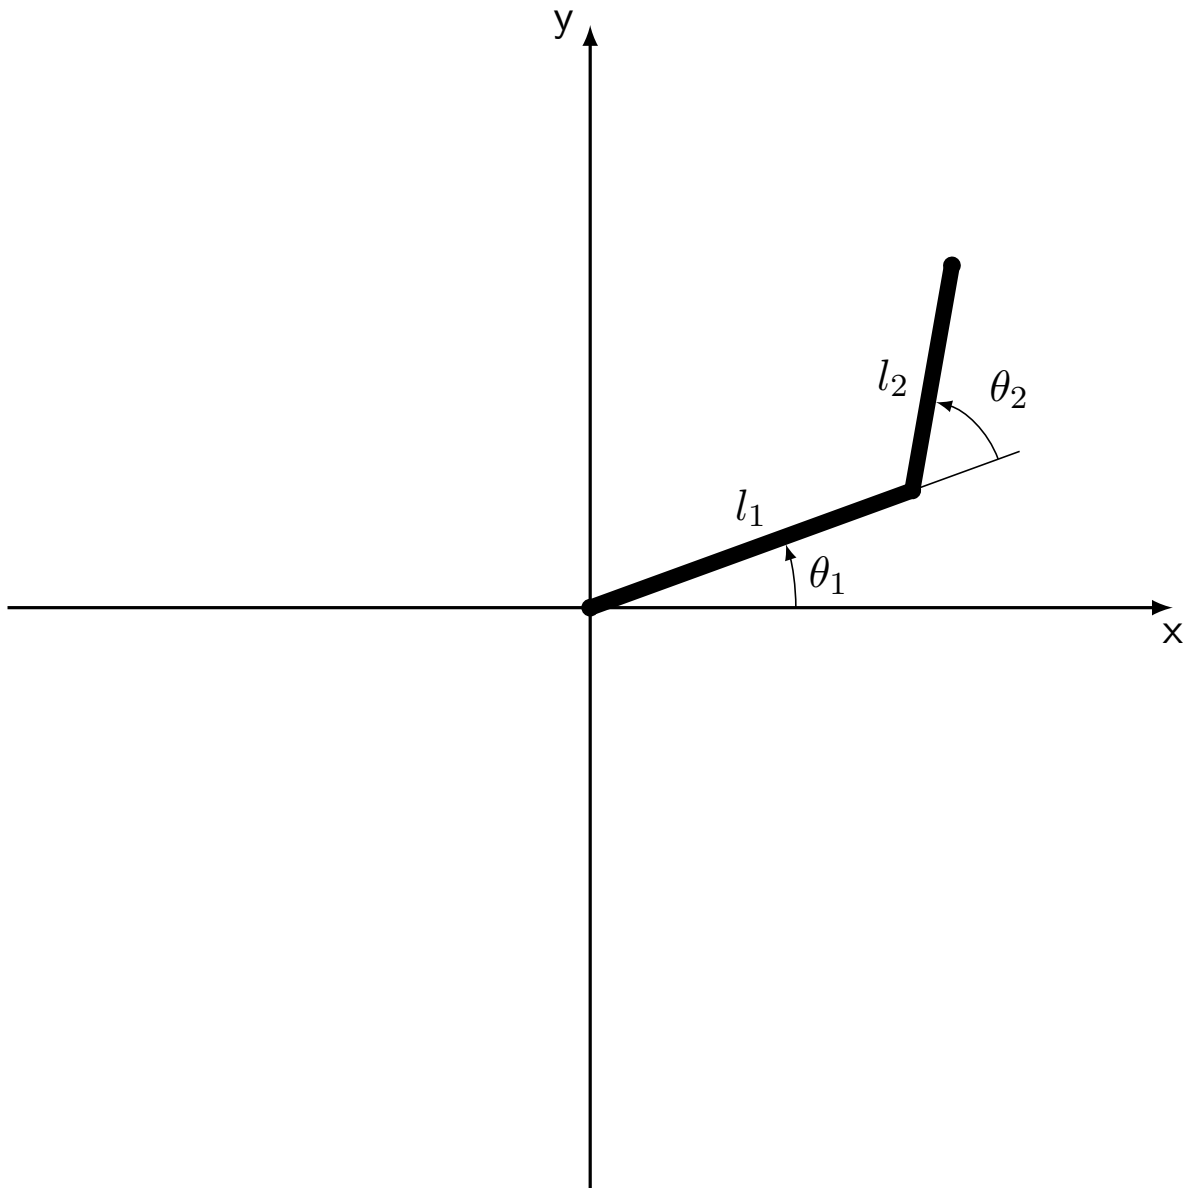

Figure 3: 2-joint planar manipulator.
**Task 3.5 (9 points) Jacobian and singularities:** Figure 3 shows a 2-joint planar manipulator with the following constraints:  $10^\circ \leq \theta_1 \leq 350^\circ$ ,  $0^\circ < \theta_2 < 360^\circ$  and  $l_1 > l_2$ .